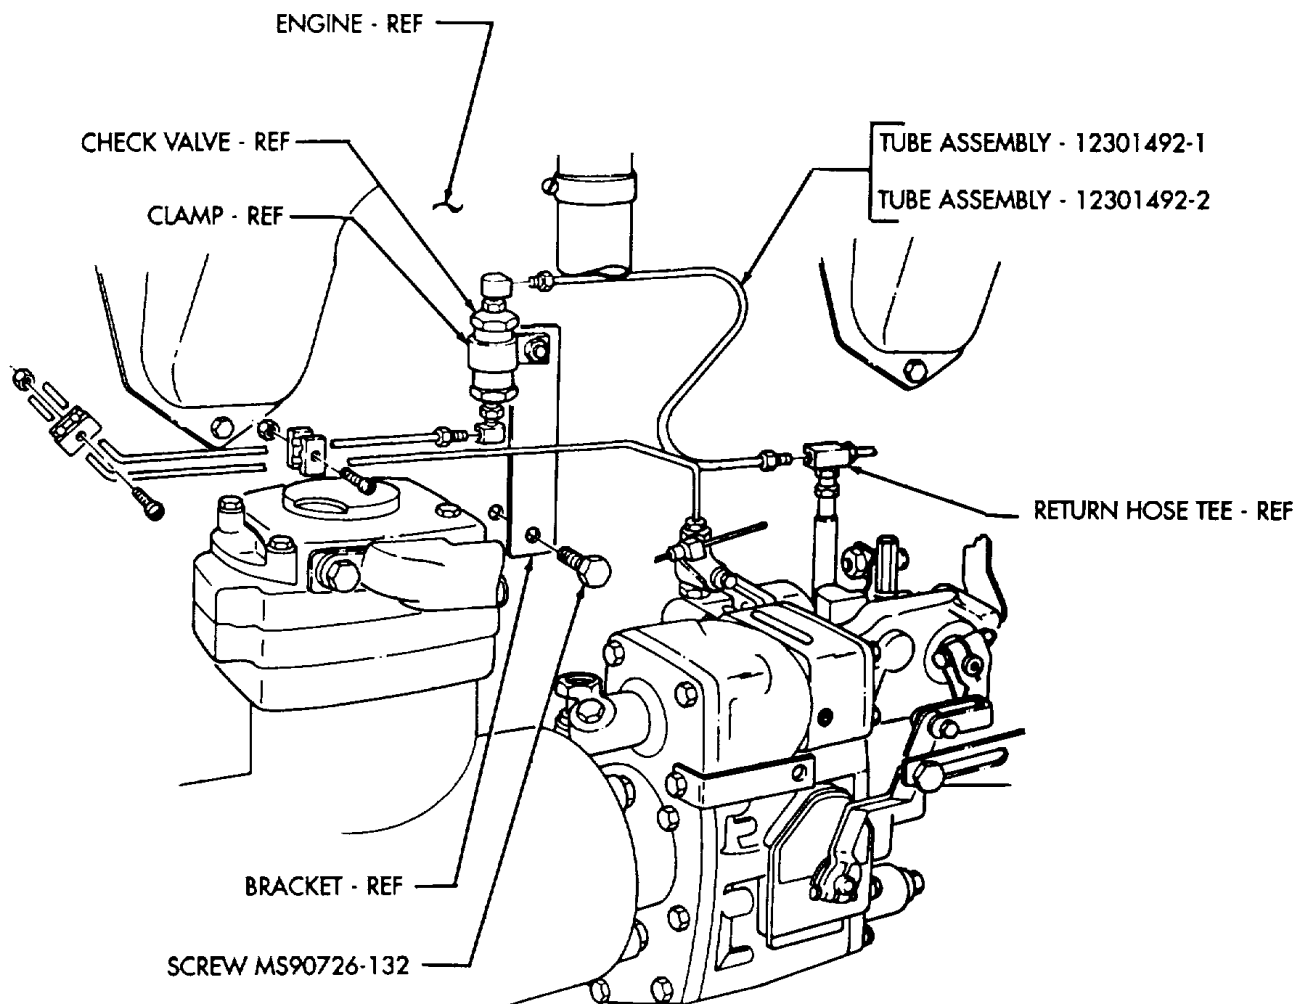

FIGURE 14
- (1) Install bracket with check valve on engine with MS90726-132 screw as shown in figure 14.
- Perform step (2) for early production vehicles.
- Perform step (3) for late model vehicles.
- (2) Connect 12301492-2 tube assembly to check valve and fuel return hose tee as shown in figure 14.
- (3) Connect 12301492-1 tube assembly to check valve and fuel return hose tee as shown in figure 14.